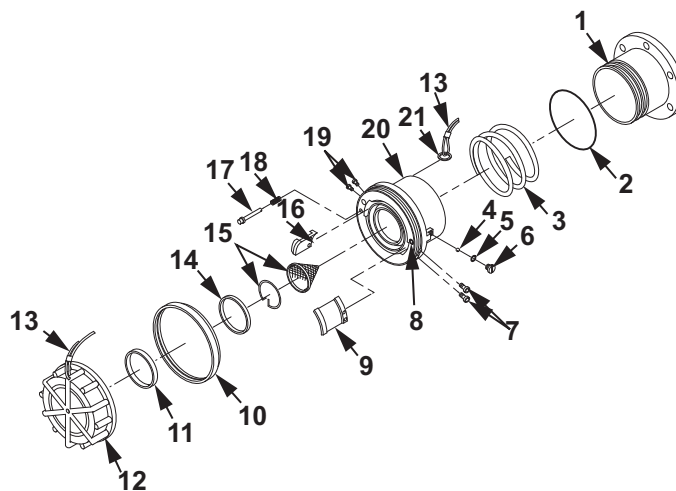

Figure 1. Non-Valved Dry-Break Coupling Disassembly.
1. Remove snap ring and screen (Figure 1, Item 15).
2. Remove ball retaining screw (Figure 1, Item 6) using a torque wrench and screwdriver bit to check the running torque. Replace ball retaining screw (Figure 1, Item 6) if the running torque is less than 3.5 in. lb (0.45 N-m).
3. Remove O-ring (Figure 1, Item 5) and discard.
4. Hold coupling (Figure 1, Item 20) over a cleaning cloth with screw hole orientated toward cleaning cloth. Rotate coupling (Figure 1, Item 20) back and forth until all 41 balls (Figure 1, Item 4) have collected in the cleaning cloth.
5. Remove coupling (Figure 1, Item 20) and O-ring (Figure 1, Item 2) from inlet adapter (Figure 1, Item 1) and discard O-ring (Figure 1, Item 2).
6. Remove spring (Figure 1, Item 3) and seal (Figure 1, Item 14) from coupling (Figure 1, Item 20). Discard seal (Figure 1, Item 14).
7. Remove ring (Figure 1, Item 21) from pin (Figure 1, Item 17).
8. Remove pin (Figure 1, Item 17) and spring (Figure 1, Item 18) from coupling (Figure 1, Item 20).
9. If the dust cap (Figure 1, Item 12) or cable (Figure 1, Item 13) is to be replaced, cut cable (Figure 1, Item 13) to remove.
10. Remove cable (Figure 1, Item 13) from ring (Figure 1, Item 21).
11. Remove seal (Figure 1, Item 11) from the dust cap (Figure 1, Item 12). Discard seal (Figure 1, Item 11).
Do not remove continuity ball (Figure 1, Item 8) from coupling. If continuity ball requires replacement, the entire coupling assembly must be replaced.
12. Remove bumper (Figure 1, Item 10).
13. Remove screws (Figure 1, Item 7, 19) to remove lugs (Figure 1, Item 16, 9).